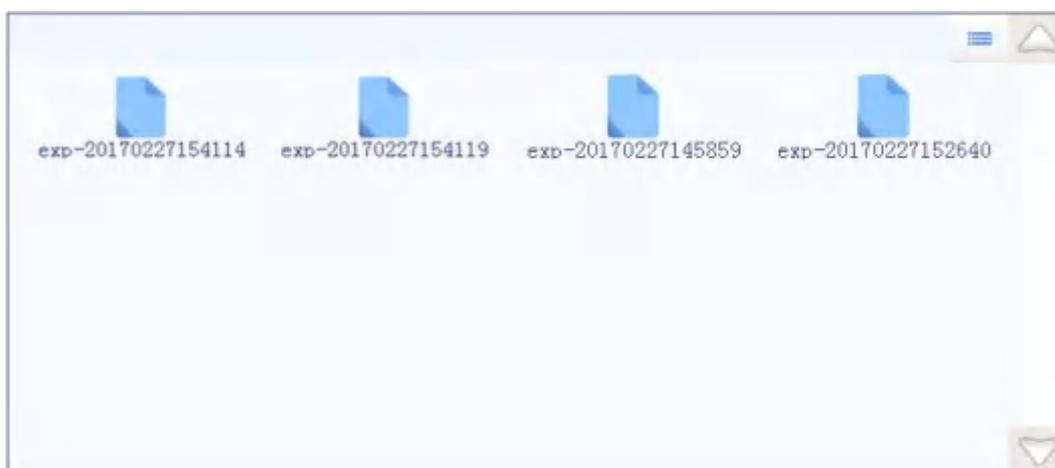

Figure E-2.1. Experiment File tab - Experiment file display area
- 1. Experiment File Displaying Area:** display the pre-existed experiment files or file folders within the instrument system, as shown in figure E-2.1.